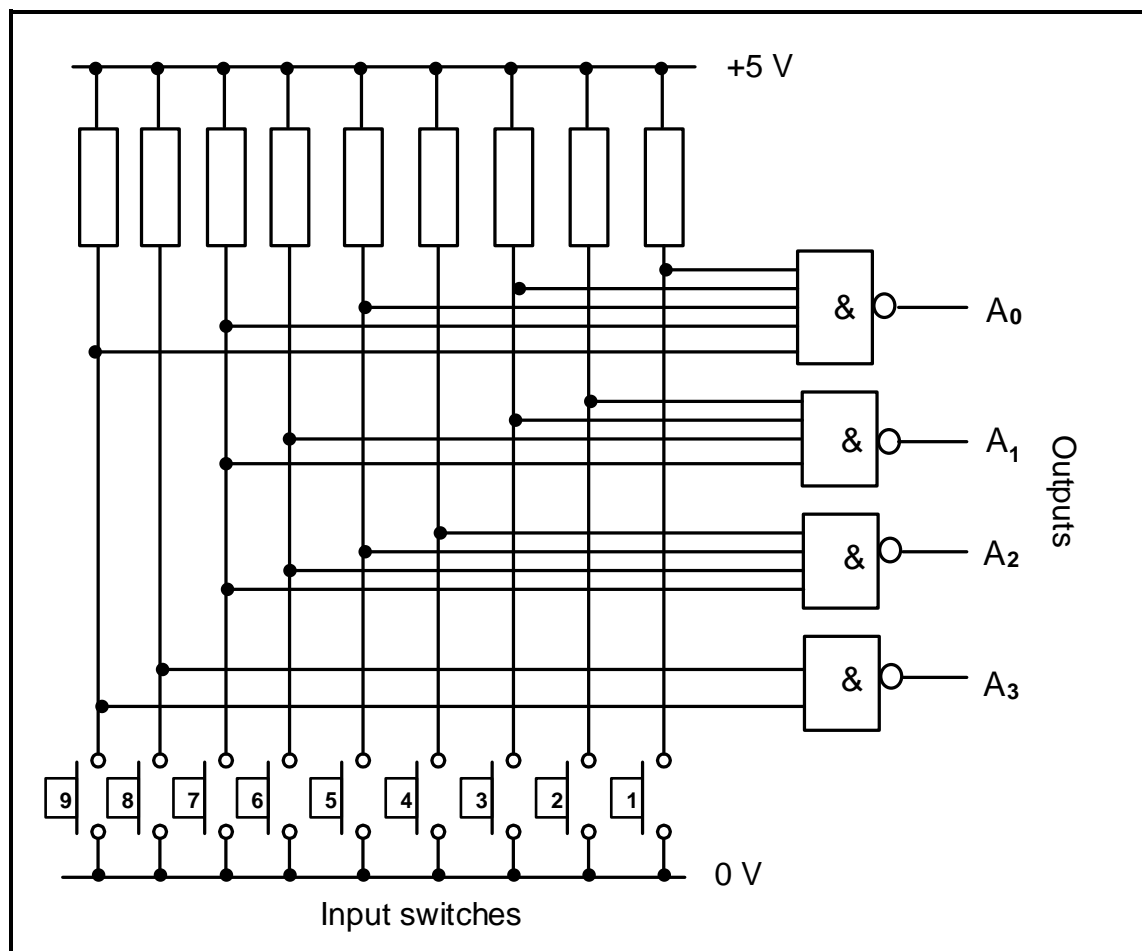

FIGURE 4.3: DECIMAL-TO-BINARY ENCODER
- 4.3 Refer to FIGURE 4.3 below and determine the binary code at the output when the following input switches are pressed. Write the answers on ANSWER SHEETS 4.3.1 and 4.3.2.